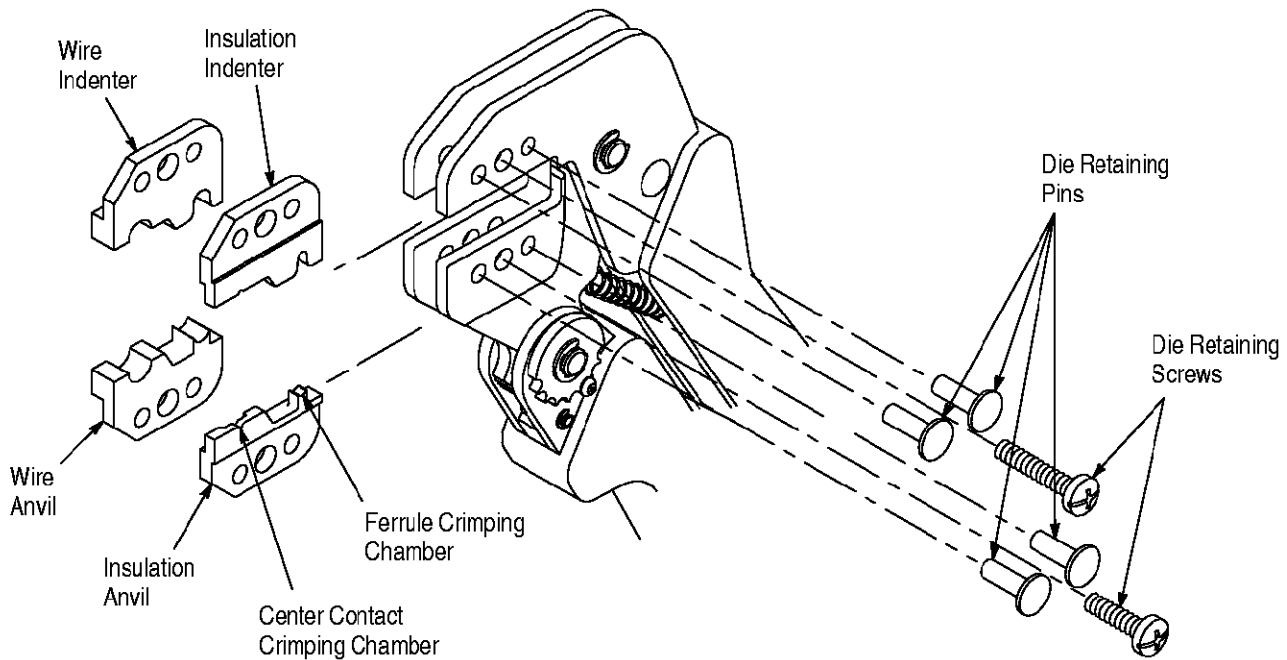

Figure 2
**3. INSTALLATION AND REMOVAL OF DIE ASSEMBLY** (Figure 2)